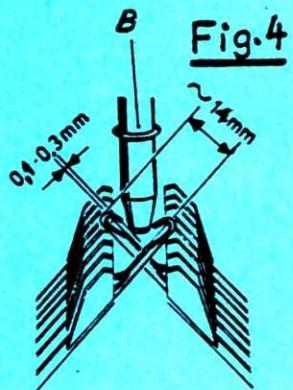

Fig.4
- Set locks on GX. On front and back bed bring 10 needles up into working position, at right and left, as shown in Fig. 4.
- When moving the lock across the needles, the lower edge of the feeding eyelet (B) should be as close to the needle-cross as possible (about 0,1 - 0,3 mm) without touching the needles (Fig. 4).